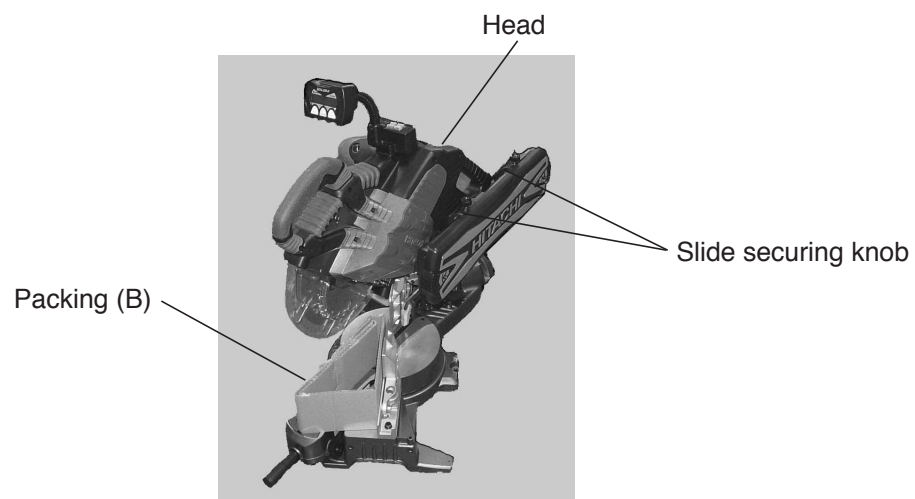

Fig. 54
(2) How to install packings (B) and (D)
Slide the head to the midpoint between holder (A) and the support at the front of the main unit, and secure it with the slide securing knob. Place packing (B) under the gear case and push the head down. Insert the locking pin while pressing packing (B) to secure the gear case in position. Insert packing (D) into the motor housing (Fig. 54).